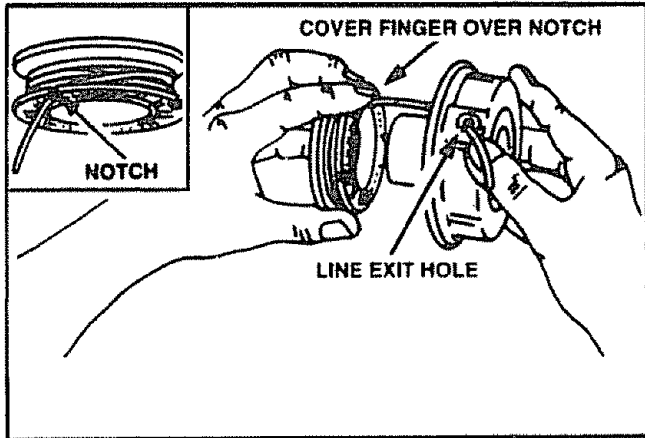

Figure 27
- Catch the line in the notch in the spool. Leave about 4 inches of line hanging from the spool. Insert the end of the line in the line exit hole. Figure 27.
- Insert line into line exit hole in the hub as shown. Figure 27.